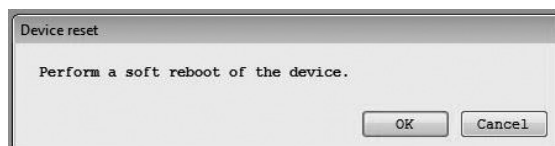

Fig. 3-77
- (1) Click "Maintenance (M)" from the menu, and then click on "Device reset".
- (2) The following window (Fig. 3-77) will be displayed.